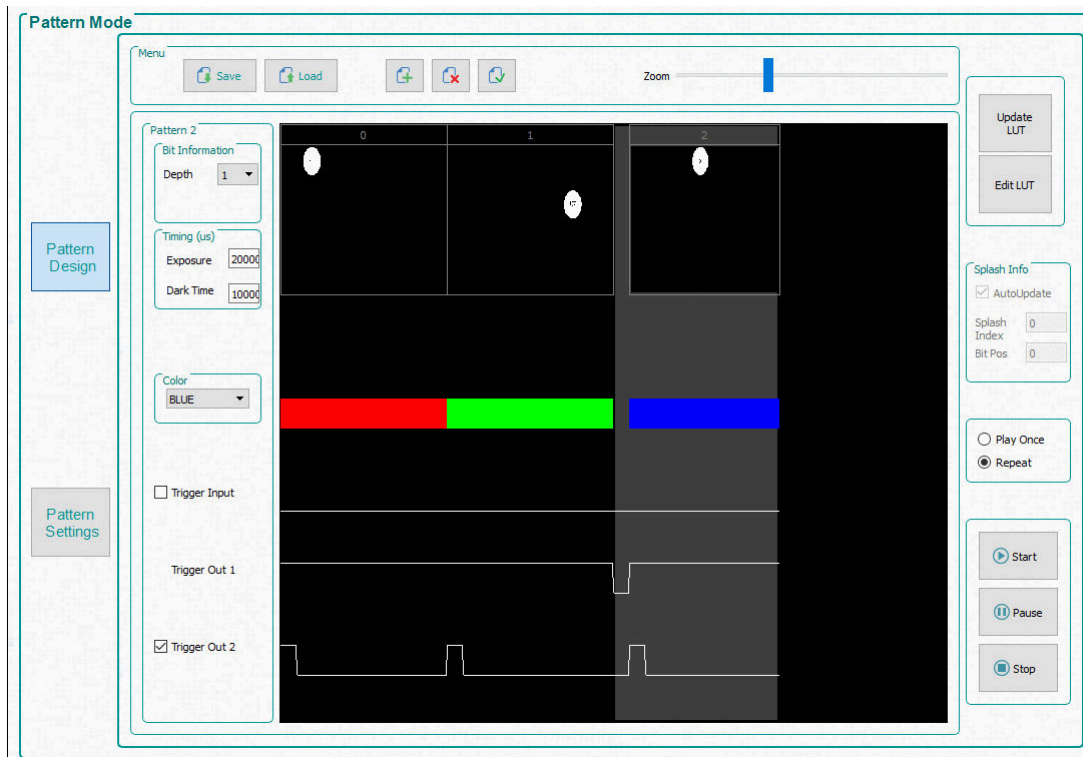

Figure 4-10. Three Pattern Sequence
7. Select the third pattern and choose a bit depth of 1. Set exposure to 200000 μ s and set dark time to 100000 μ s, and select **Blue** as the color. Figure 4-10 shows the pattern sequence. The *Zoom* bar can be used to zoom in and out which is useful when many patterns are loaded into the panel.